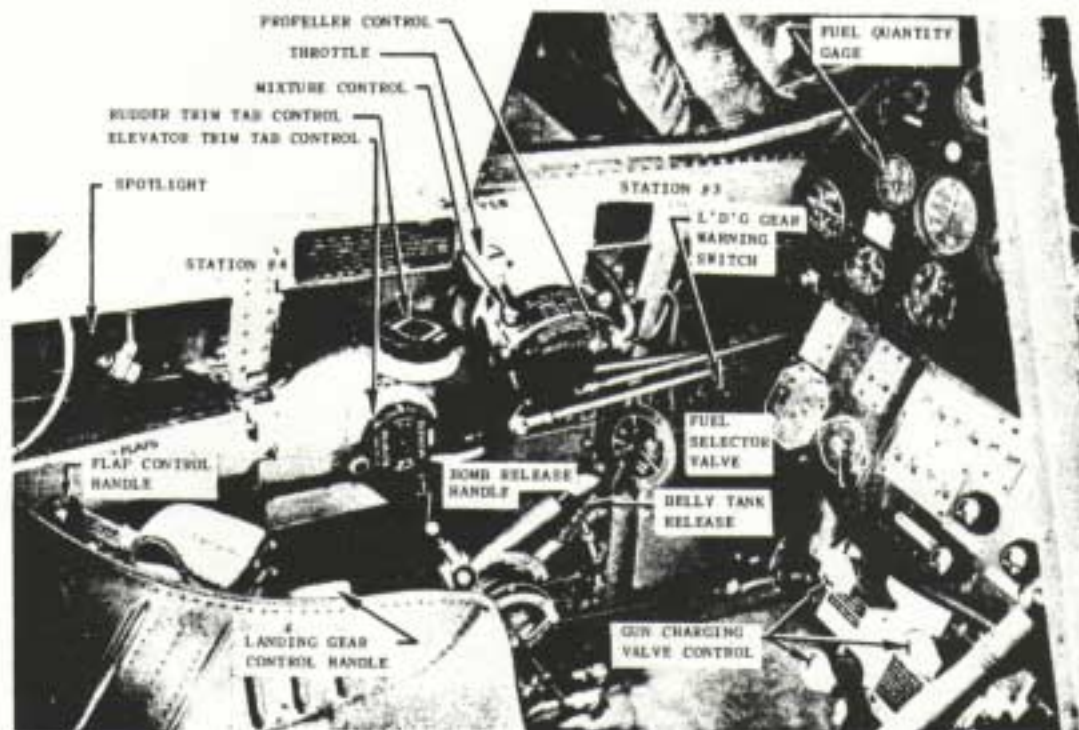

Figure 8 - Cockpit - Left Side
(2) Aileron and Elevator. - Conventional control stick, equipped with a thumb-operated hydraulic system "OFF-ON" button on the top of the grip, and a squeeze type machine gun trigger lever on the front side of the grip.
(3) Rudder Control. - Conventional pedals and toe-operated brakes. Each rudder pedal may be adjusted to desirable length by first pushing inboard on the spring-loaded adjustment lock which permits the pedal to float free on its hinge. After moving pedal to desired location, release lock and juggle pedal slightly to allow locking pin to snap into position. ALWAYS ADJUST BOTH PEDALS TO THE SAME LENGTH.
(4) Elevator Trim Tab Control. - The trim tab is actuated by a round control knob (figure 8) on the left side of the cockpit. The knob has calibration marks around its outer circumference. Rotating the knob clockwise (forward) puts the airplane nose down.
(5) Rudder Trim Tab Control. - The rudder tab is actuated by a round control knob (figure 8) on the left side of the cockpit. Rotating it to the left (counterclockwise) turns the nose of the airplane to the left.
(a) Gear Down. - The landing gear may be lowered (WHEN THE IAS IS 175 MPH OR LESS) by pulling the safety latch bolt on the landing gear lever (figure 8) forward, and lowering the handle to its "DOWN" position. Press the hydraulic control switch button on top of the control stick until a few seconds after the indicator (figure 10) shows the gear to be down and locked in place. As a final check, operate the hand pump (figure 9) and if a high pressure is required to move it, the gear is down. If the landing gear warning horn fails to sound when the throttle lever (figure 8) is closed, the landing gear locks are definitely in place. RETURN THE CONTROL LEVER (FIGURE 8) TO "NEUTRAL." The safety latch bolt prevents the accidental raising of the handle beyond the neutral position.
(b) Gear Up. - The gear may be raised at any speed. Pull the safety latch bolt on the landing gear control lever (figure 8) forward, and raise the handle to its "UP" position. Press the hydraulic switch button on the top of the control stick until the indicator (figure 10) on the instrument panel shows the gear completely up. RETURN CONTROL HANDLE (FIGURE 8) TO "NEUTRAL" AFTER GEAR IS RETRACTED.
(a) Flaps Down. - Move flap control lever (figure 8) to "DOWN" position. Press button on top of control stick until a second or two after indicator shows flaps are down. If a high pressure is required to move the auxiliary hand pump, the wing flaps are fully extended. RETURN FLAP CONTROL HANDLE TO "NEUTRAL" AFTER EXTENSION.
(12) Fuel Tank Gages. - Gages are direct visual reading gages. It is not necessary to operate any switch to place them in operation.
(13) Fuel Selector Valve. - Conventional. (See figure 8.)
(4) Propeller Control. - Whenever the airplane is being operated, the safety switch (figure 10) should be "ON." When the switch opens due to overload, it may be reset by placing it in the "OFF" position and then returning it to the "ON" position. Propeller pitch may be changed independently of the rest of the propeller control system by holding the three-way toggle switch (figure 10) in either the "INC. RPM" or "DEC. RPM" position until the desired rpm is obtained. The automatic constant speed control may be used by placing the switch in the "AUTO" position and setting the propeller governor control lever (figure 8) to the required rpm.
(3) Landing gear control handle (figure 8) in neutral.
(4) Flap control handle (figure 8) in neutral.
(6) See that controls are FREE.
(7) Turn ignition switch to "BAT."
(8) Fuel selector (figure 8) on "RES." Do not turn selector valve to "BELLY" if the belly tank is not installed.
(12) Throttle (figure 8) wide open.
(13) Mixture control on "IDLE CUT-OFF."
e. With mixture control (figure 8) in "IDLE CUT-OFF" position and the throttle wide open, operate the electric fuel pump switch (figure 10) to obtain 16 pounds per square inch.